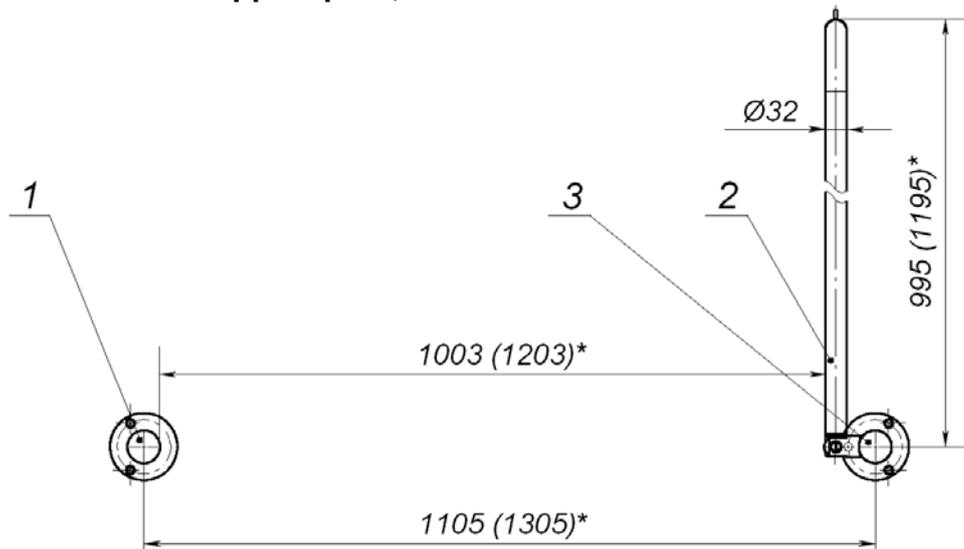

**Figure 3 – Stationary railing section without filler panel and with adjustable coupling fittings:
- **Stationary railing section** with filler panel (see Figure 1) or without filler panel (see Figure 2 and Figure 3), designed to form passageways. The filler panel is made of tinted glass or polycarbonate sheet.